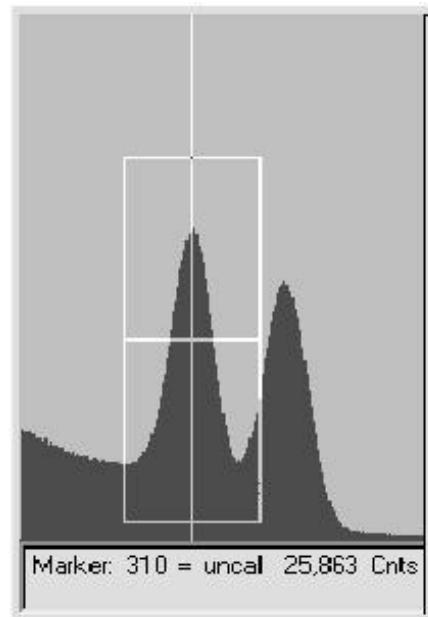

Fig. 9. The Rubber Rectangle's Crosshairs.
2. Drag the mouse diagonally across the area of interest. As you do this, the mouse will be drawing a reverse-color rectangle bisected by the marker line. Note that when drawing a rubber rectangle, the marker line combines with a horizontal line inside the rectangle to form crosshairs (Fig. 9). They make it easy to select the center channel in the area of interest — this might be the center of an ROI that you wish to mark or unmark, a portion of the spectrum to be summed, or a peak for which you want detailed information.